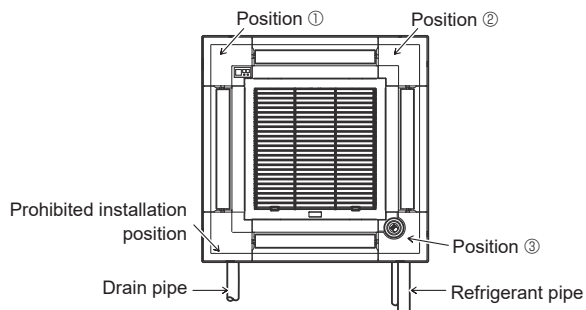

Fig. 9-10
- The i-see Sensor corner panel should be fixed onto the grille (①) with screw (③).
- * If the position of the i-see Sensor was changed from default position (Position ③) to the other position, change the function settings. (Refer to page 12 and Fig. 9-10)
- The i-see Sensor corner panel can not installed on the drain pipe side for the main unit. (Refer to Fig. 9-10)